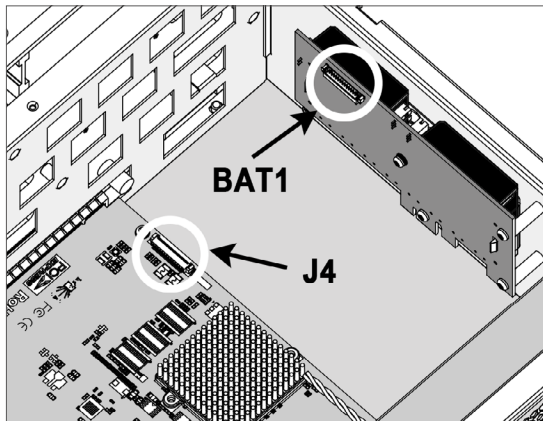

Figure B-11, Secure the Battery Module
3. Insert the cable connector into the **BAT1** (14-pin box header battery connector on ARC-1883-BAT/CAP module), and also insert another side of the cable connector into the **J4** (14-pin box header battery connector on ARC-8050T3-16R/24R backplane), as shown in Figure B-11.